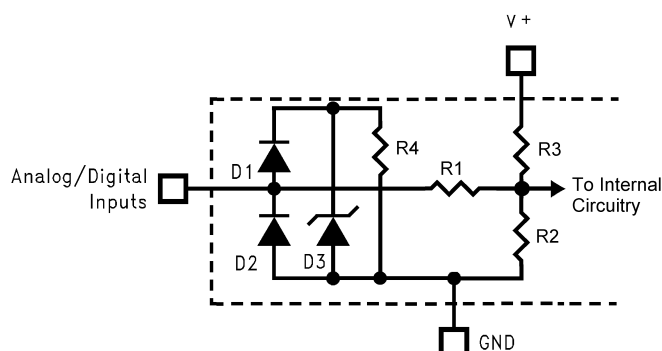

Figure 2. ESD Protection Input Structure
- (1) Parasitics and or ESD protection circuitry are shown in Figure 2 for the LM87's pins. The nominal breakdown voltage of the zener D3 is 6.5 V. Care should be taken not to forward bias the parasitic diode, D1, present on pins: A0/NTEST_OUT, A1 and DACOut/NTEST_IN. Doing so by more than 50 mV may corrupt a temperature or voltage measurement.
- (2) Typicals are at $T_J = T_A = 25\text{ }^\circ\text{C}$ and represent most likely parametric norm.
- (3) Limits are specified to TI's AOQL (Average Outgoing Quality Level).
- (4) The Temperature Error specification does not include an additional error of $\pm 1\text{ }^\circ\text{C}$, caused by the quantization error.
- (5) The Temperature Error will vary less than $\pm 1\text{ }^\circ\text{C}$ over the operating V_{CC} range of 2.8V to 3.8V.
- (6) TUE (Total Unadjusted Error) includes Offset, Gain and Linearity errors of the ADC.
- (7) Total Monitoring Cycle Time includes all diode checks, temperature conversions and analog input voltage conversions. Fan tachometer readings are determined separately and do not affect the completion of the monitoring cycle.
- (8) This is the lowest DAC code specified to give a non-zero DAC output.